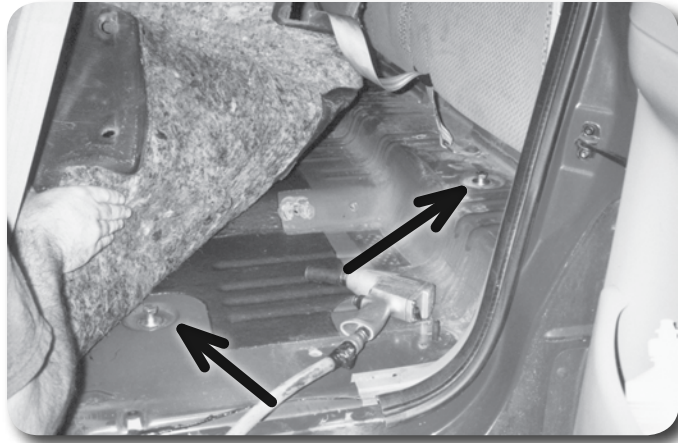

Figure 4
8. Pull the carpet back behind the front seat to expose the rear cab mounting bolts **Figure. 4**. There are four on super cabs and two on standard cabs.